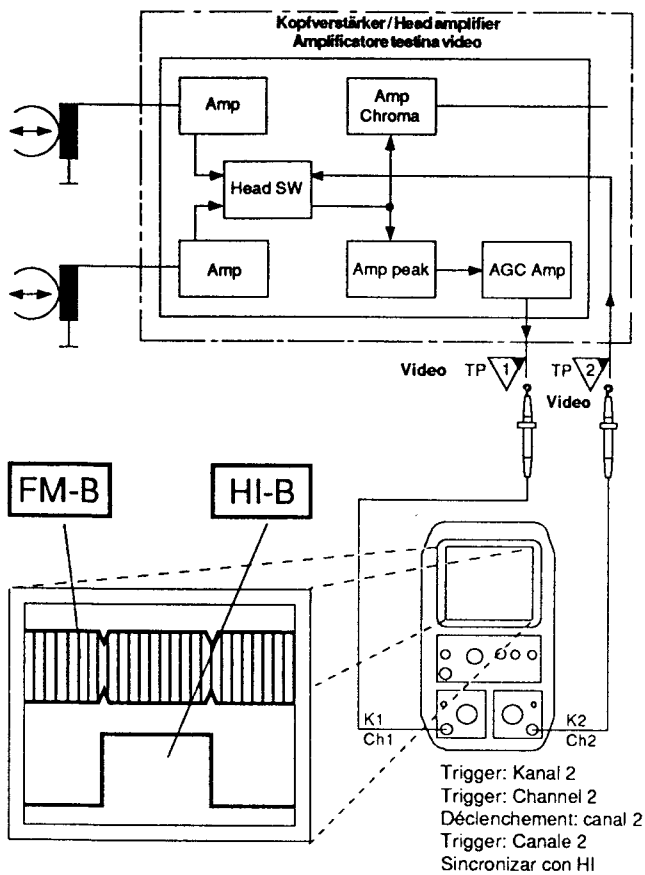

Fig. 33
- Connect the oscilloscope as shown in Fig. 33:
- Connect the oscilloscope as shown in Fig. 33.